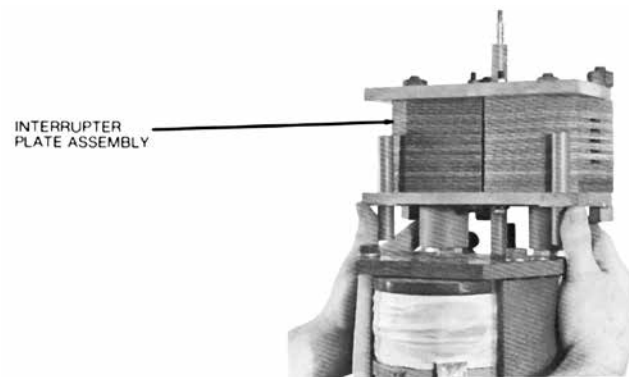

Figure 11. Removing interrupter plate assembly
- D. Remove the interrupter plate assembly from the stationary contact housing (Figure 11).